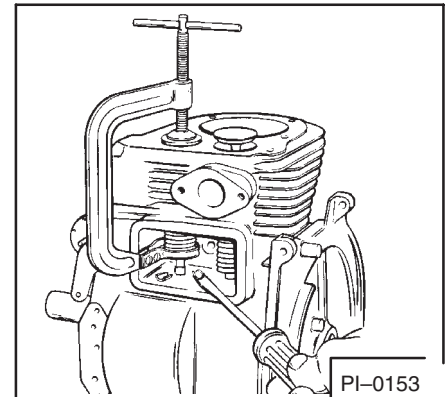

Fig. 38 Using Valve Compressor
11. Raise valve springs with a spring compressor (Fig. 38) and push valve keepers off valve stems. Remove valve spring retainers, springs and valves.